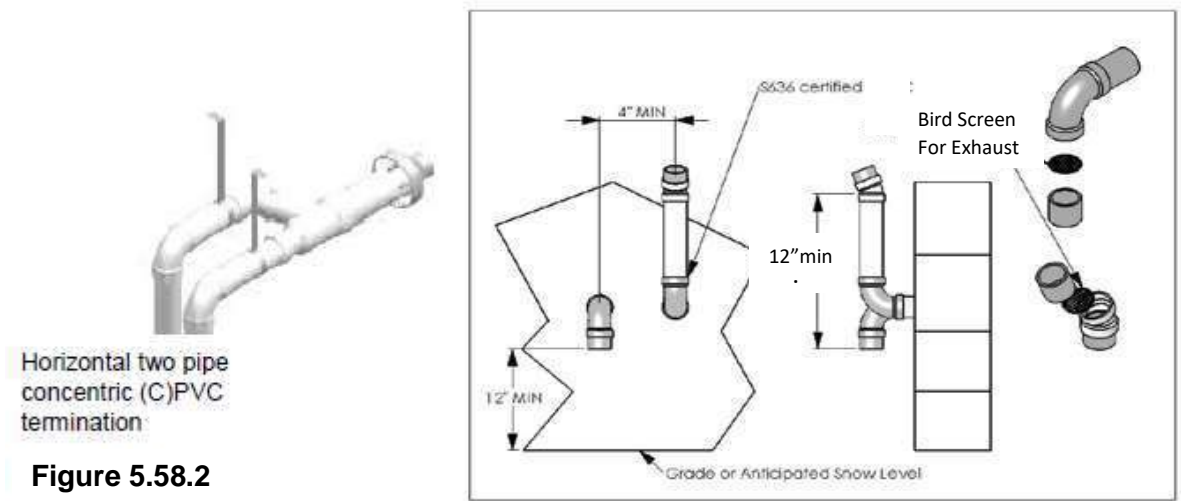

Figure 5.58.1
- Both the inlet and exhaust terminations should 12" minimum away from the down-turned intake - to avoid re-circulation. The elevation of both pipes can be raised in "periscope style" after passing through the wall, then configured as in **Figure 5.58.1** or **Figure 5.58.3**, to gain required clearance. Ideally use a 45° elbow on the exhaust termination to launch the plume up and off the sidewall, for protection of wall. A bird screen is useful to guard against foreign objects.